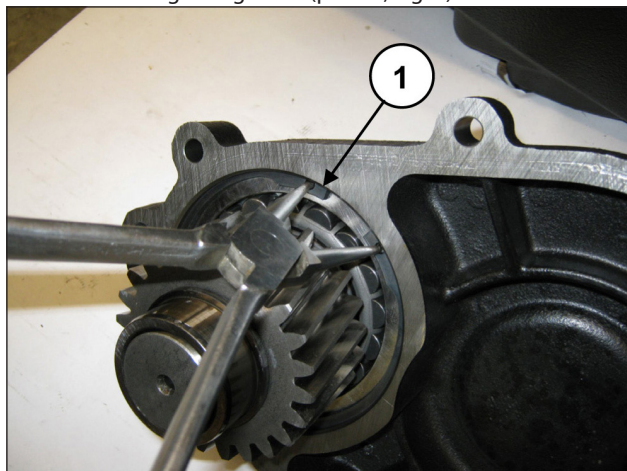

Fig. 7
Remove the Seeger ring Ø120 (pos. ①, Fig. 7).